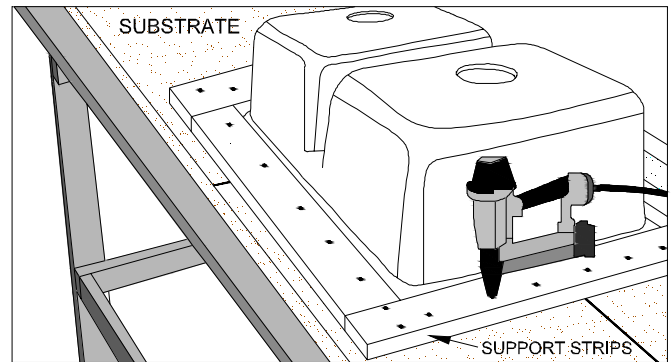

Figure 12A
- Place $\frac{3}{4}$ " thick wood support strips around entire perimeter of sink flange. (FIG. 12A)